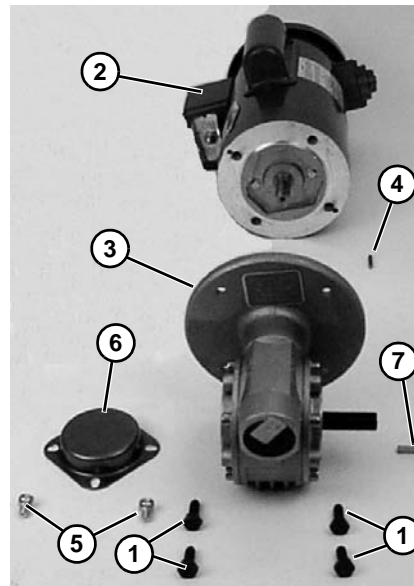

Figure 37
5. Remove four screws (**Figure 37, item 1**). Detach motor (**Figure 37, item 2**) from gear reducer (**Figure 37, item 3**). Retain motor output shaft key (**Figure 37, item 4**).
6. Remove two (2) screws (**Figure 37, item 5**) and detach output shaft cover (**Figure 37, item 6**).
7. Remove gear reducer output shaft key (**Figure 37, item 7**).
11. Apply anti-seize to motor shaft before assembling to gearbox. With key (**Figure 37, item 4**) in keyway, slide motor (**Figure 37, item 2**) and gear reducer (**Figure 37, item 3**) together. Install screws (**Figure 37, item 1**) and tighten.